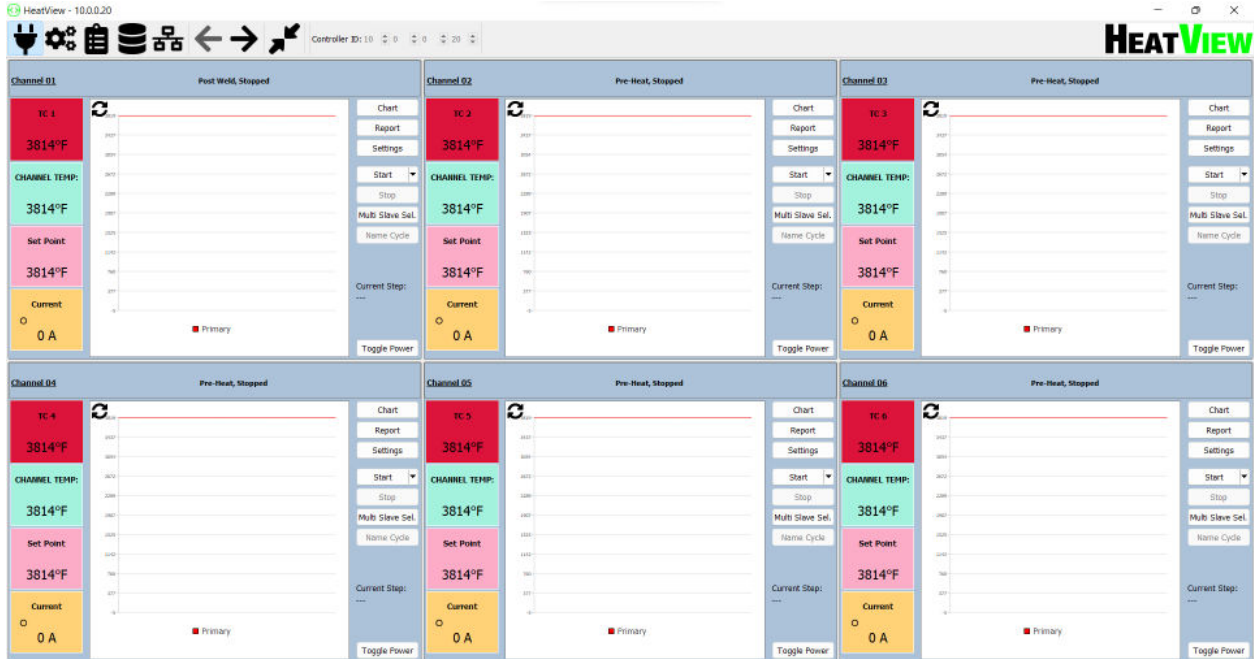

Figure 40: Connecting to The Controller – ‘Main Screen’, connected
- If connection to the HEAT VIEW controller was successfully established, the ‘Main Screen’ of the application should now look similar to that shown in Figure 40 on the next page. You’ll notice that there is now channel data visible and there are many more options available to you. All of these will be explained in detail starting in Section 8 ahead.